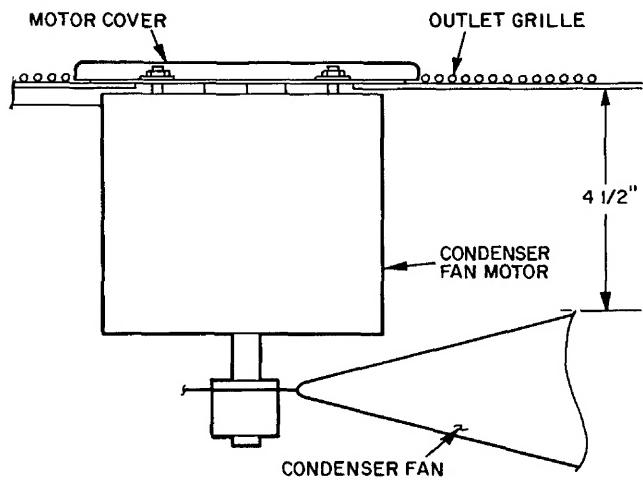

Fig. 10 – Condenser-Fan Adjustment
Condenser-Fan Adjustment (Fig. 10)
4. Adjust fan height as shown in Fig. 10.